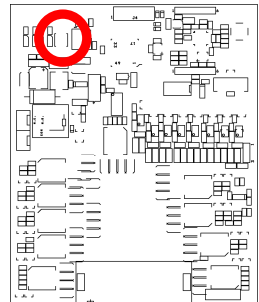

Figure 1. Pulsante di codifica
3. Locate and press the coding pushbutton on the receiver board (blue button – fig. 1);
4. Press simultaneously the coding button on the receiver board (fig. 1) and **START** key on the transmitter for 3-4 sec., so release the 2 keys;
6. Press simultaneously the coding button on the receiver board (fig. 1) and **STOP** key on the transmitter for 3-4 sec., so release the 2 keys;